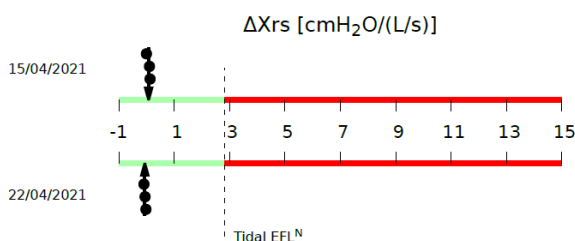

Figure 80 -Expiratory Flow Limitation (EFL) during tidal breathing
- If you used 5 Hz or 5-11-19 Hz stimulating waveform, an additional graph on the bottom of the page is displayed (Figure 80). This graph shows as an arrow the mean and standard deviation of ΔXrs calculated over all the measurements of the session. Black dots represent the mean ΔXrs of individual measurements results. ΔXrs is the difference between the mean inspiratory and the mean expiratory reactance and it is an index of expiratory flow limitation (EFL) during tidal breathing (Dellacà et al., ERJ, 2004). A threshold of 2.81 cmH₂O/(L/s) is used to classify a patient as flow limited or non-flow limited during tidal breathing (Dellacà et al., ERJ, 2004). If such arrow is in the green part of the graph the patient has no flow limitation during tidal breathing. An arrow in the red part of the graph indicates the presence of EFL.